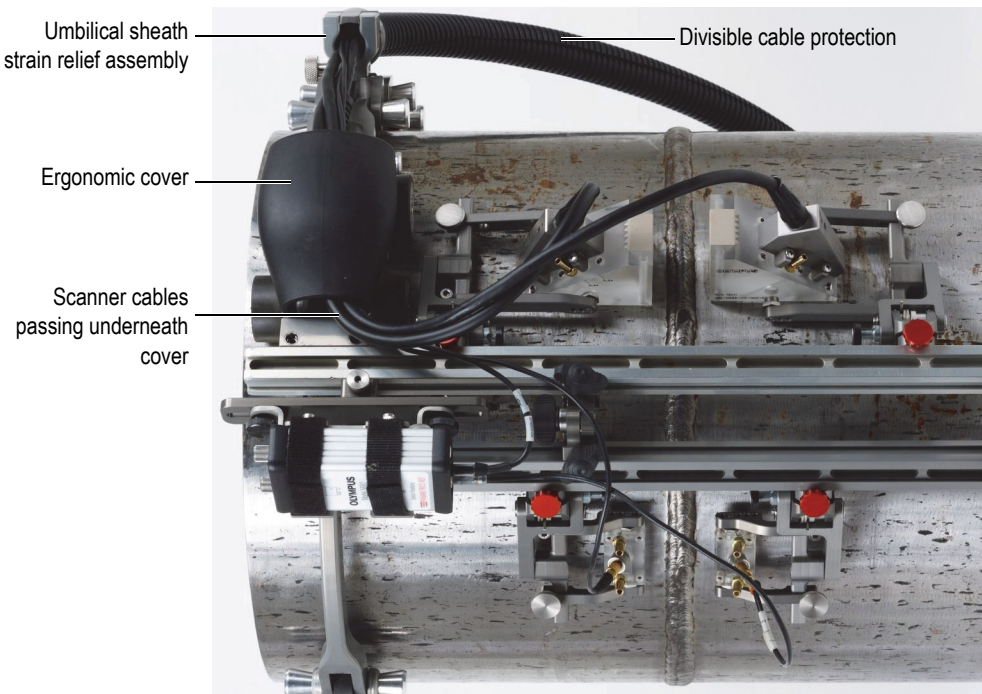

Figure 3-2 Cables passing underneath the module’s ergonomic cover (model equipped with Four-Probe kit shown)
10. Pass the probe cables and irrigation tubes under the module’s black ergonomic cover (see Figure 3-2 on page 63).